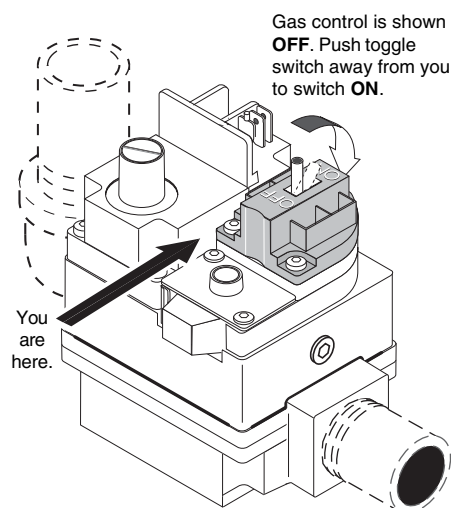

Figure 26.
6. **Toggle-Style Valve:** Pull toggle toward you to turn gas off, see Figure 26.
7. Wait five (5) minutes to clear out any gas. If you then smell gas, **STOP!** Follow “B” in the “Before Start-up” instructions (page 32). If you don’t smell gas, go to the next step.
4. **Toggle-Style Valve:** Pull toggle toward you to turn gas off, see Figure 26.